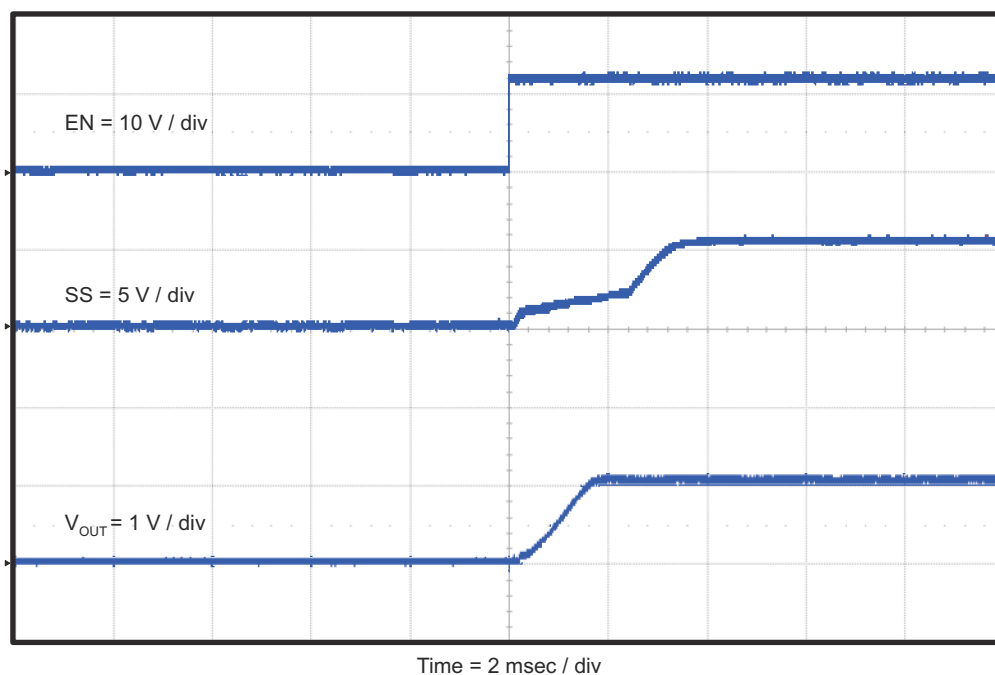
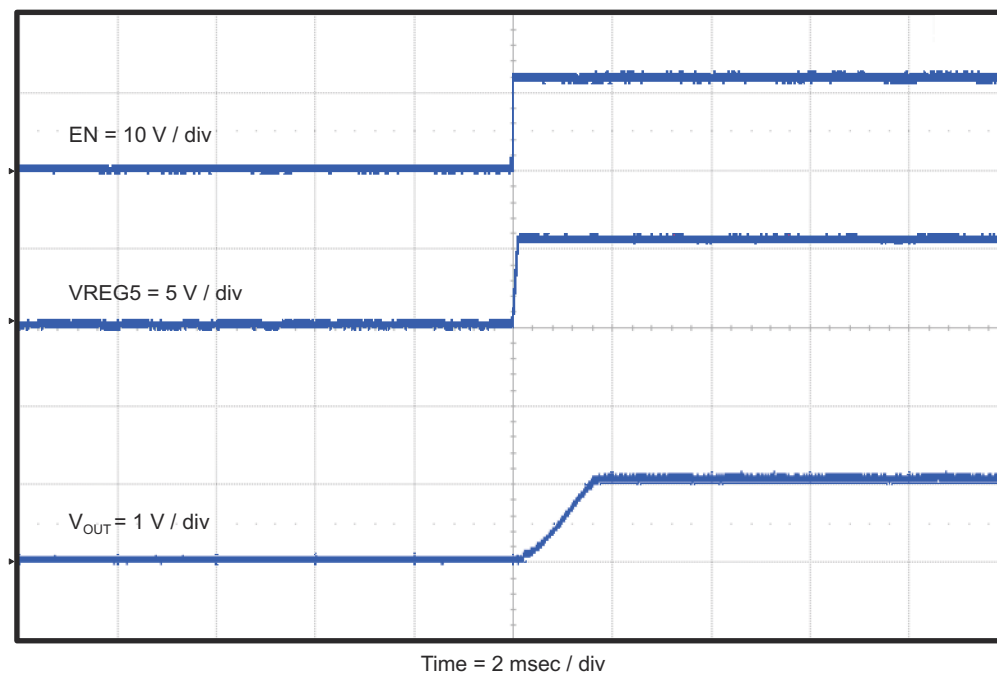

Figure 4-10. TPS54329EVM-056 Start-Up Relative to EN With SS
Figure 4-11. TPS54329EVM-056 Start-Up Relative to EN With VREG5
The TPS54329EVM-056 start-up waveforms relative to enable (EN) are shown in Figure 4-10 and Figure 4-11.